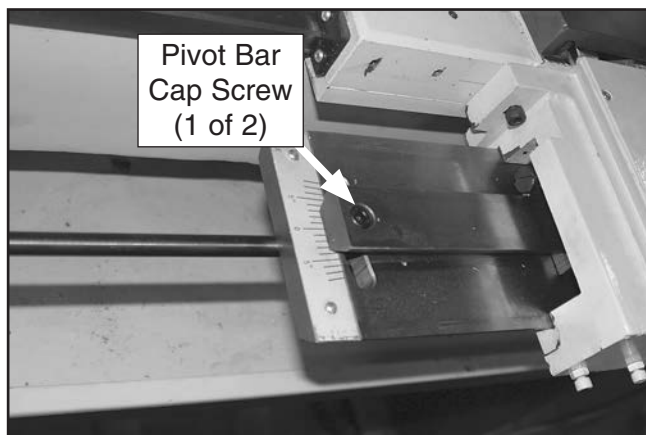

Figure 32. Pivot bar cap screw (1 of 2).
5. Loosen the cap screw at each end of the pivot bar (see **Figure 32**).